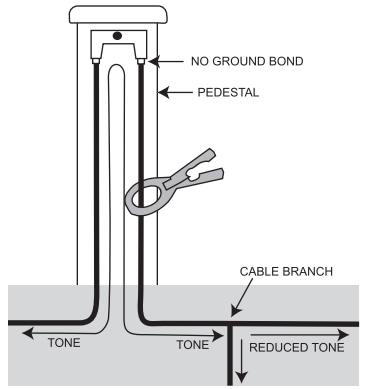

**Fig. 10. Coupling Points**
Applying the coupler above the bond will effectively "block" the tone from transmitting past the grounding point. (See Fig. 10) By strategically placing the clamp in the direction of the transmitter, tone may be controlled.
3. **Near End Coupling:** To supply tone from the end of a cable, the end of the cable must be bonded or grounded. (See Fig. 10)